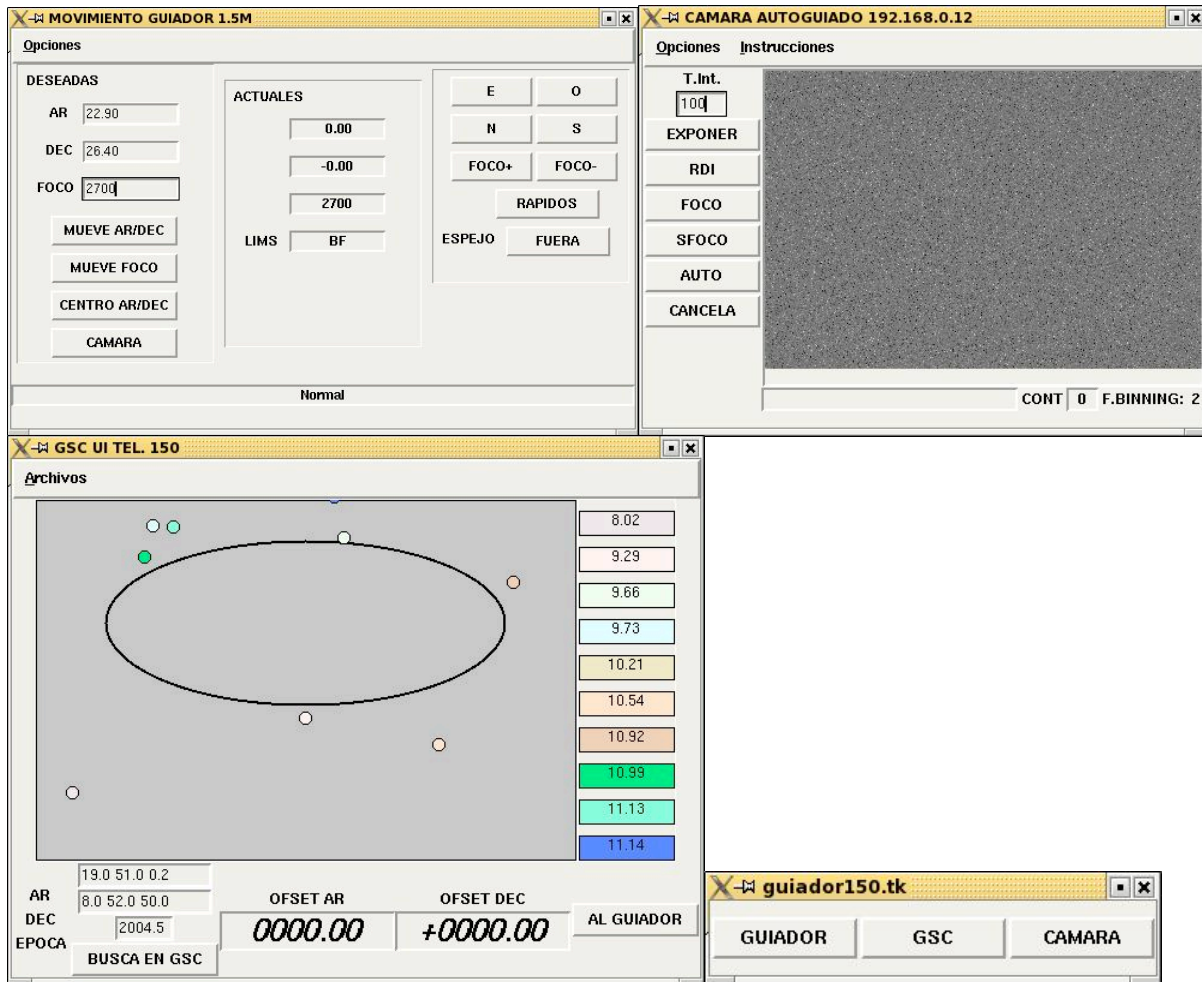

Figure 10: The four windows used to control the guider at the 1.5m.
in any terminal window. A control panel will open with buttons with the same labels `GUIADOR`, `GSC`, and `CAMARA`. Select all three buttons to open three windows with these names. All of these are shown in Figure 10.
1. **At the 1.5m**, the easiest way to shut down the guider is to close the guider control panel (Figure 10). This will close all of the other guider component windows.